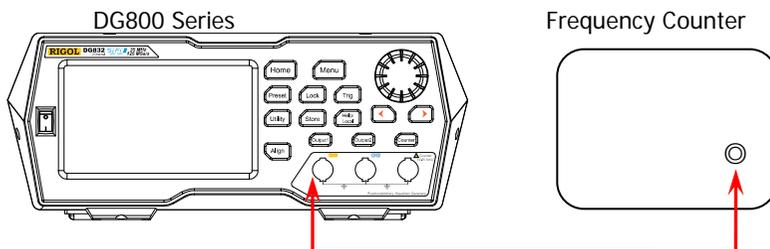

Figure 2-1 Connect DG800 and the Frequency Counter
1. Make sure that the environment temperature is between 18°C and 28°C and DG800 has been warmed up for at least 30 minutes. Connect the channel output terminal (take CH1 as an example; the test method is also applicable to CH2) of DG800 with the signal input terminal of the frequency counter using a dual-BNC cable as shown in Figure 2-1.